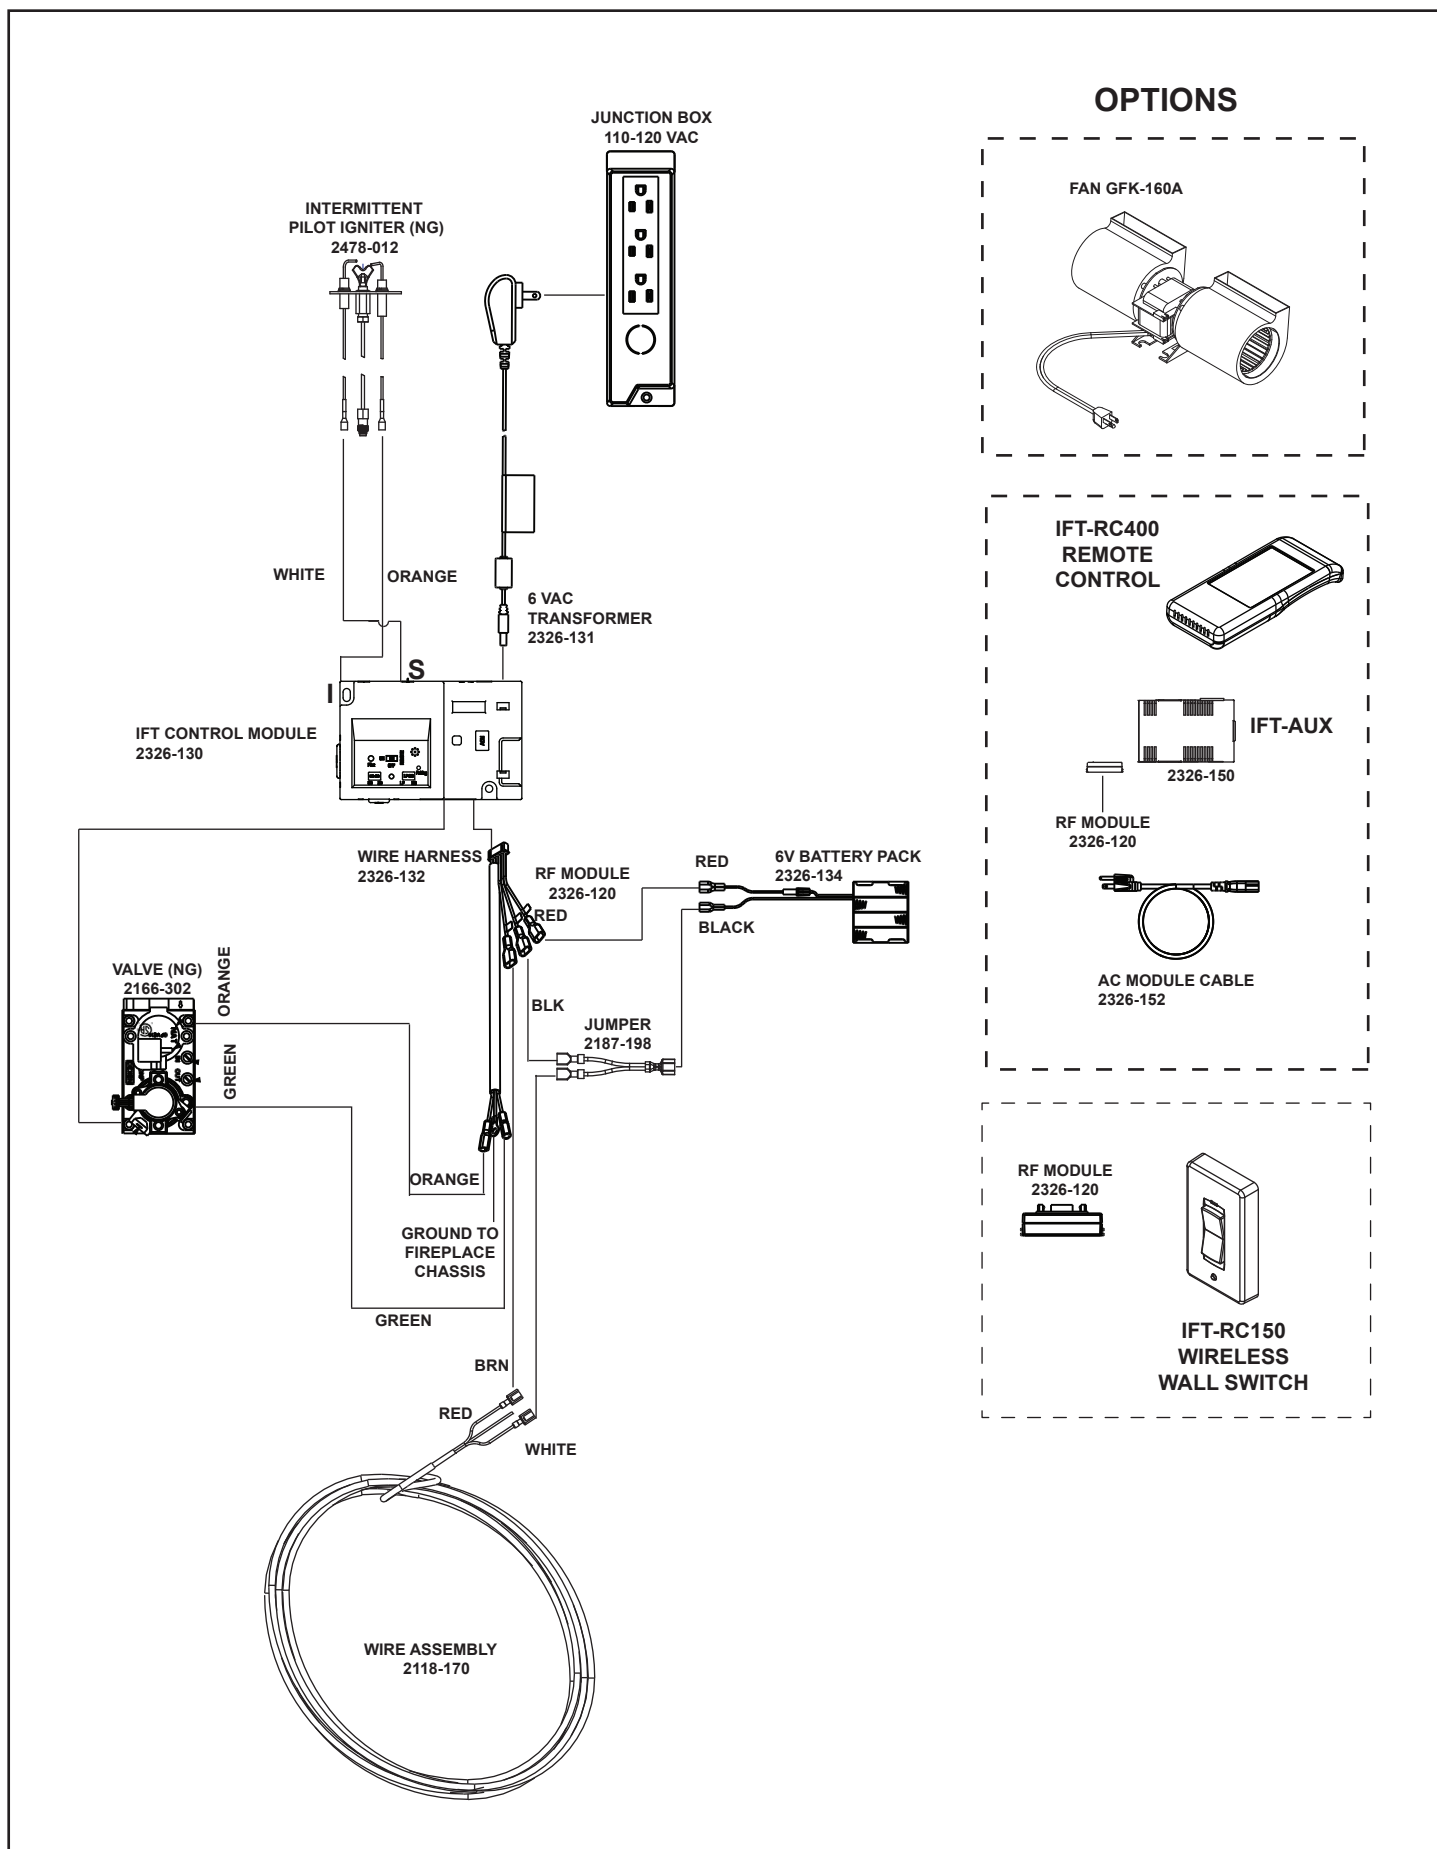

Figure 8.2 IntelliFire Touch Wiring With Wall Switch
- Refer to Figure 8.2, IntelliFire Touch® (IPI) Wiring Diagram.